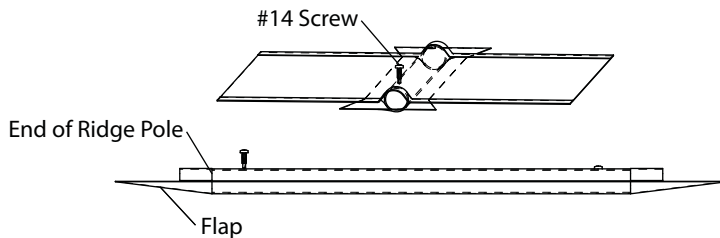

Figure 43
4) See Figure 43. Slide the ridge pole into the tarp pocket and secure with #14 x 1 PPH self drilling screw.
6) See Figure 43. Fold flaps around end of ridge pole when provided.